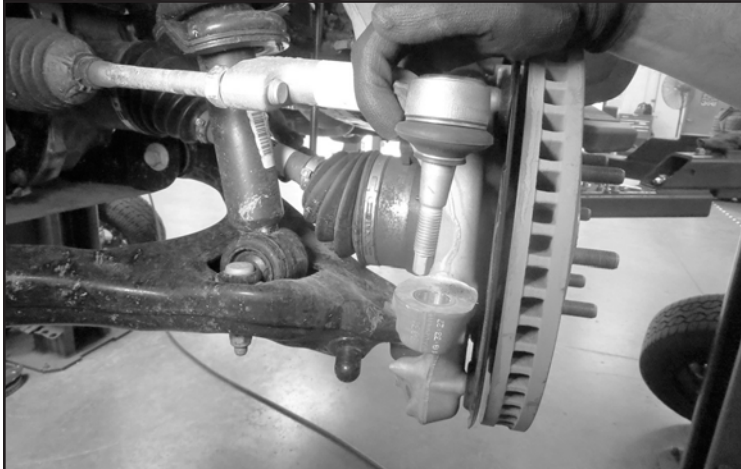

FIGURE 1 - STEP 3
3. Starting on the drivers side, disconnect the tie rod end from the steering knuckle by striking the knuckle to dislodge the tie rod end. Save hardware. **SEE FIGURE 1**